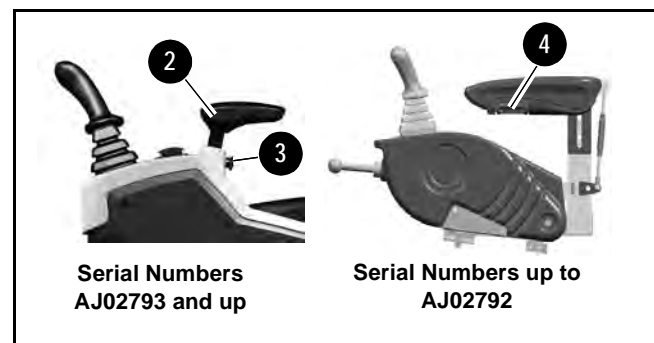

Figure 3-24 Armrests
Serial Numbers AJ02793 and Up: To adjust, hold armrest (2, Figure 3-24) and pull out latch (3). Move the armrest to the desired position and release latch (3). Make sure latch (3) locks securely into a detent in the armrest.